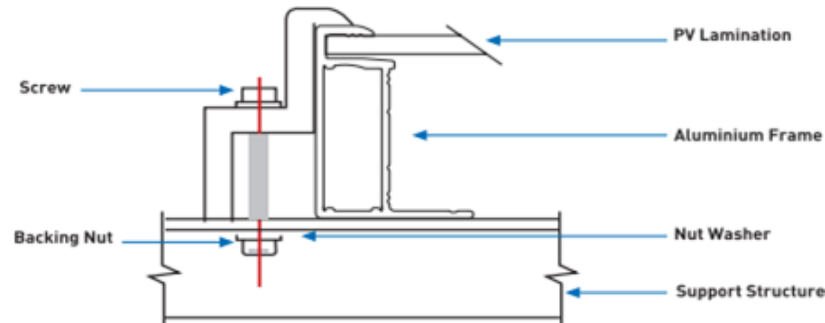
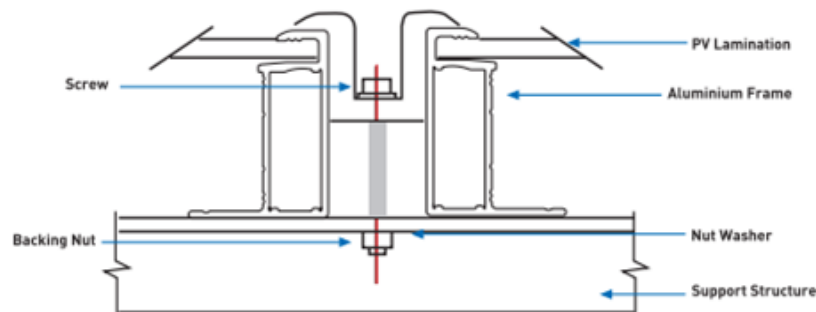

Figure 6: PV MODULES INSTALLED USING FRINGE CLAMPING METHOD
Figure 7: PV MODULES INSTALLED USING MIDDLE CLAMPING METHOD
- ◆ Fringe Type Module Installation (**Figure 6**) and Middle Module Installation (**Figure 7**) Diagrams are given below.